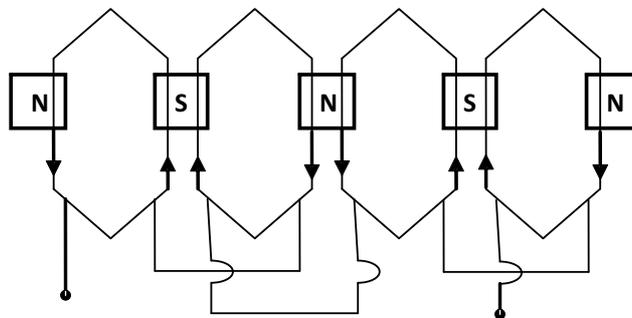

Fig.3.2 - Coil groups
**Coil Groups :** One or more coils connected in series are called coil groups, as shown in Fig. 3.2. The number of coil groups is equal to the number of poles. In Fig. 3.2, there are four coil groups, which are equal to four numbers of poles. For AC winding, the total number of coil groups depends upon the number of poles and the number of phases.